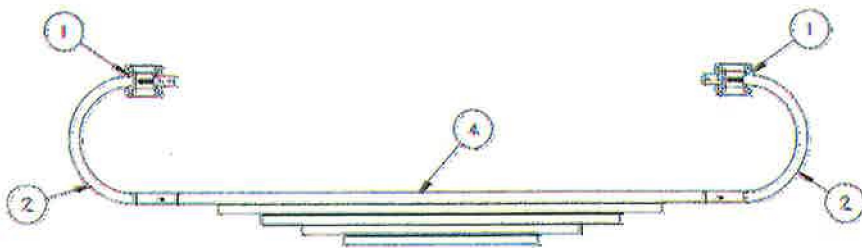

Figure 1 Rod Main Components
- 3) Assemble the ejection curtain rod (Figure 1. Item No. 2,3,4,6).